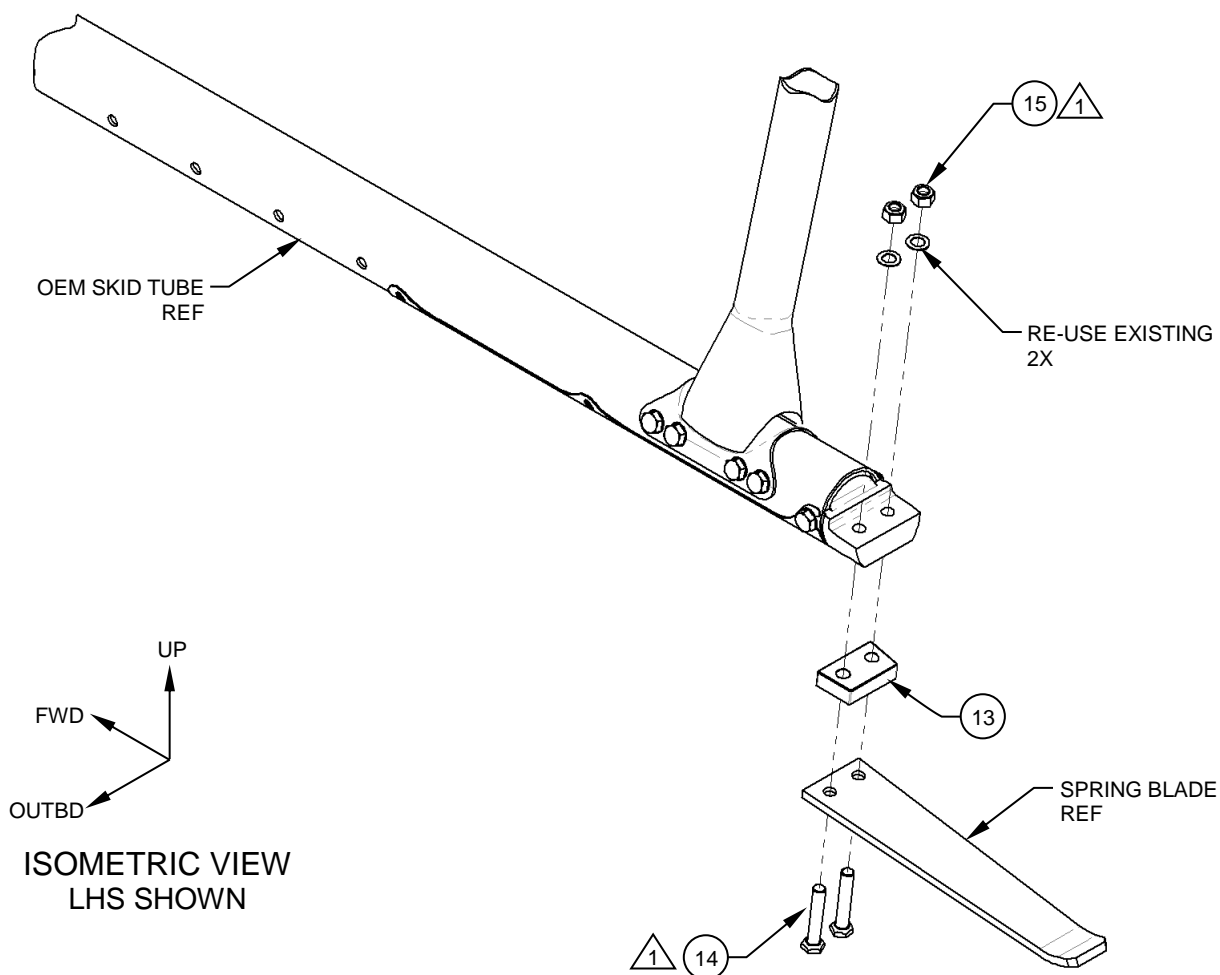

**Figure 1**
2. Remove the Strap, Assys (Item 10), Cap, Details (Item 11) and the associated Nuts (Item 9) and Radius Washers (Item 12). Raise the aircraft and remove the Bear Paw, Detail (Item 1) from under the skid tube. Reference Figure 1.
4. Repeat removal steps on the RHS. Reference Figures 1 & 2. Removal complete.
6. Repeat removal steps on the RHS. Reference Figures 1 & 3. Removal complete.
3. While the aircraft is raised, position the Bear Paw, Detail (Item 1) under the skid tube. Reference Figure 1.
4. Once the Bear Paw, Detail (Item 1) is under the skid tube in its approximate location, place the Strap, Assys (Item 10) and their respective Cap, Details (Item 11) on their corresponding bolts. Reference Figure 1.
**NOTE:** Ensure the Aft-most Strap, Assy (Item 10) and associated Cap, Detail (Item 11) are positioned between the cross-tube saddle fitting and the existing bolt at the aft end of the skid tube. Reference Figure 1.
6. Lower the aircraft onto the Bear Paw, Details (Item 1). After ensuring sufficient clearance between the Bear Paw, Details and the spring blade, torque the fasteners equally to 40 in/lbs. (plus tare torque). Reference Figure 1.